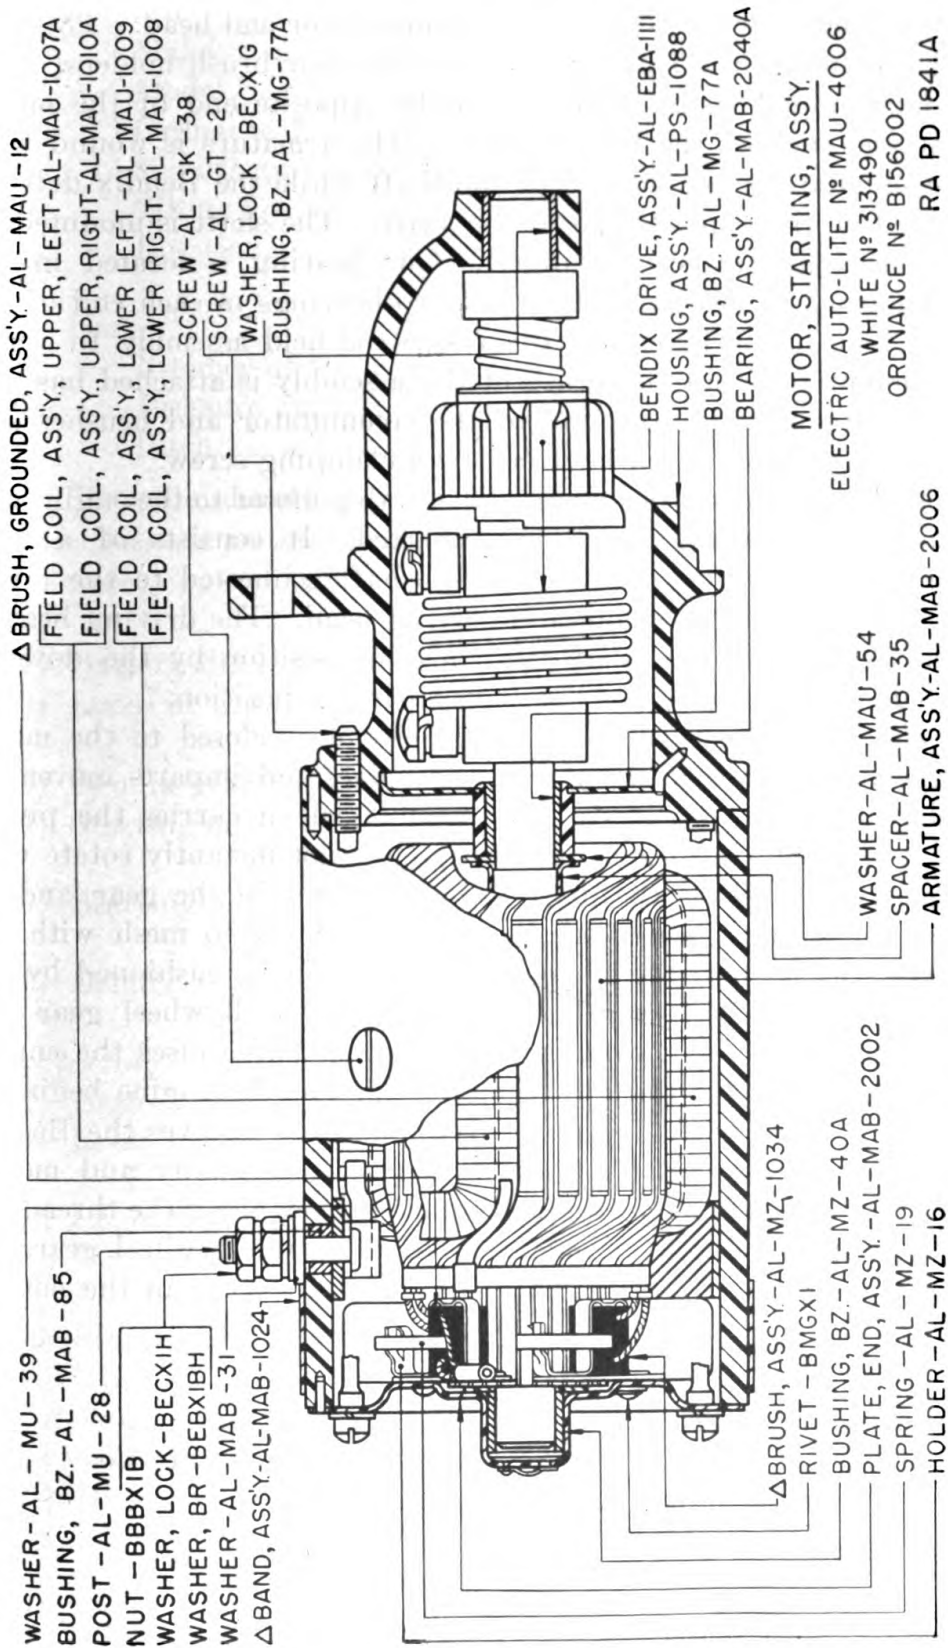

Figure 73.—Starting motor, sectionalized.
a. Construction (fig. 73).—(1) The motor consists of a frame-and-field assembly in the form of a hollow cylindrical section. The four pole pieces are mounted on the inside circumference of the frame and each is encircled by a field coil. The field coils are connected in series. The lead at one end of the coils is connected to an insulated terminal post which passes through the frame. The lead at the opposite end of the coils is connected to a brush which is mounted